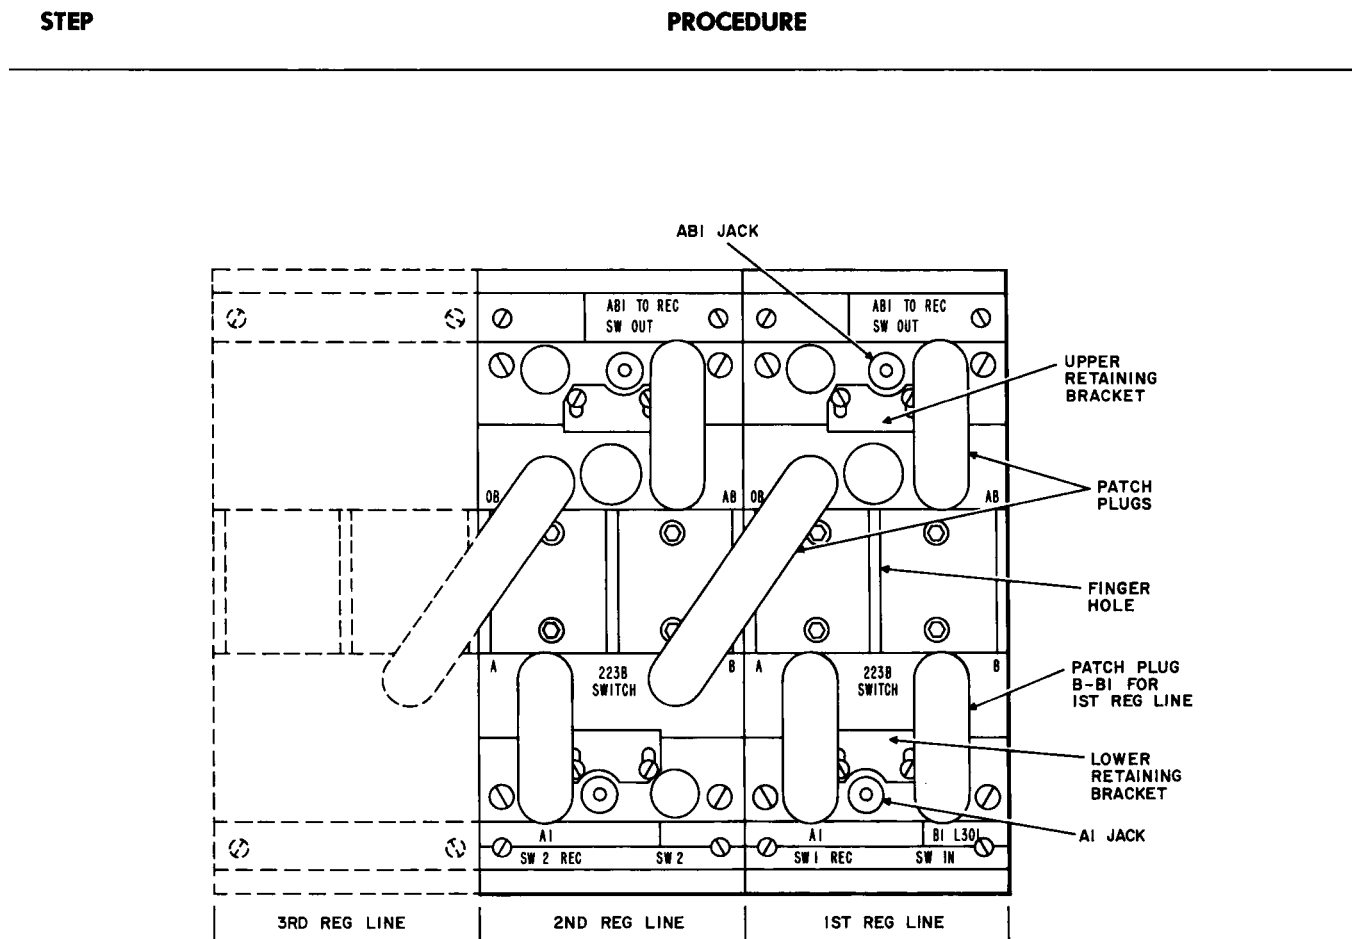

Fig. 7—Typical L3 Switch Arrangement at the Receive End
- 7 Restore the patch plugs to normal (Fig. 7).
- 11 At the receive end (miscellaneous bay), insert a patch cord from the multiple A1 jack to the multiple AB1 jack of the defective switch (Fig. 7).
- 12 Remove the patch plug between the B and B1 jacks of the **first regular line** (Fig. 7), and insert a 75-ohm termination plug in the B1 jack.